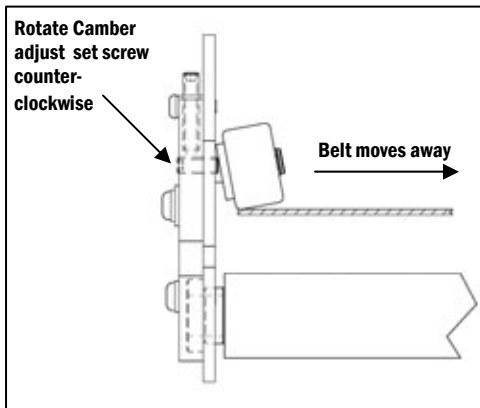

Figure 2
b. Turn camber adjust set screw counter-clockwise (threading out). Decreasing the Z-Track camber adjustment on that side will push the belt away from the idler (Figure 2). Wait for two belt revolutions around the conveyor to see if the adjustment corrects the issue. If not, move to the next step.